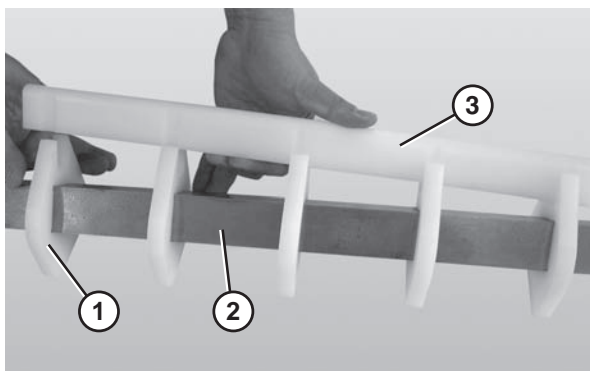

Figure 68
- Slide the nose bar pucks (**Figure 68, item 1**) onto the nose bar drive post (**Figure 68, item 2**).
- Attach the nose bar wear strip (**Figure 68, item 3**).